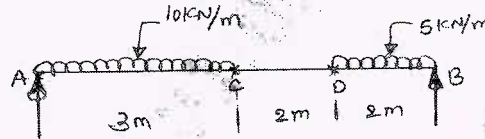

Fig.Q5(c)
c. Draw the SF and BM diagrams of a simply supported beam of length 7 m carrying uniformly distributed loads as shown in Fig.Q5(c). (10 Marks)